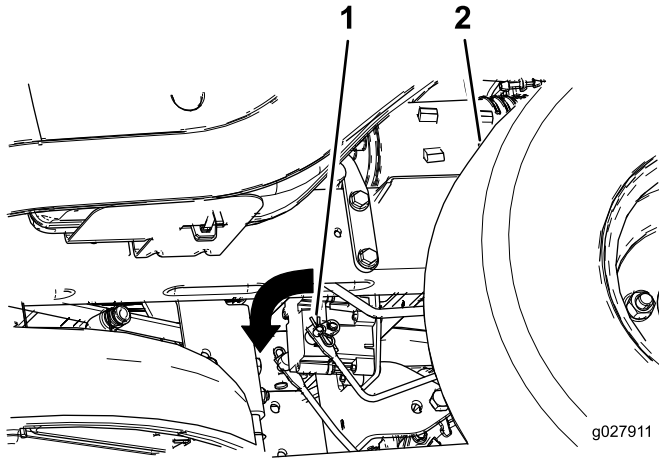

Figure 42
2. Locate the shaft on the electric brake where the brake link arms are connected (Figure 42).
3. Rotate the shaft forward to release the brake (Figure 42).